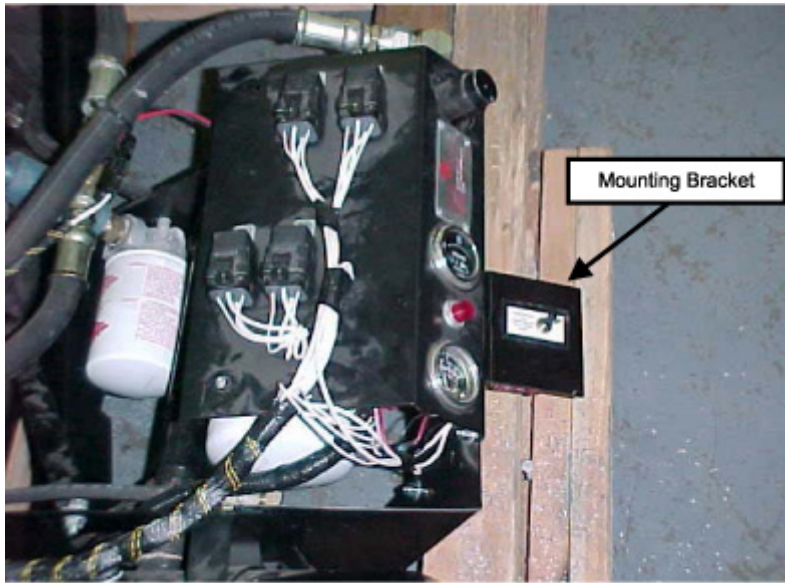

Figure 2
- 4 Place the decal supplied in the kit in the appropriate place (see Figure 2). Next, mount the Murphy relay into the bracket and attach with the supplied washer and nut.